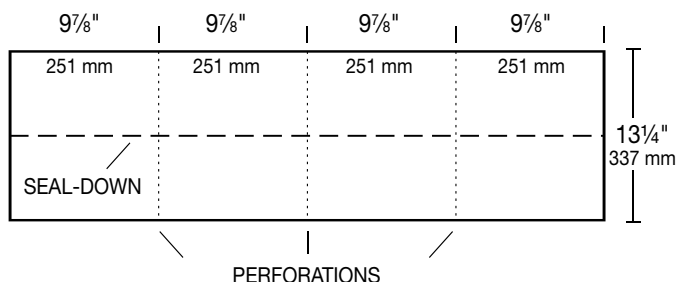
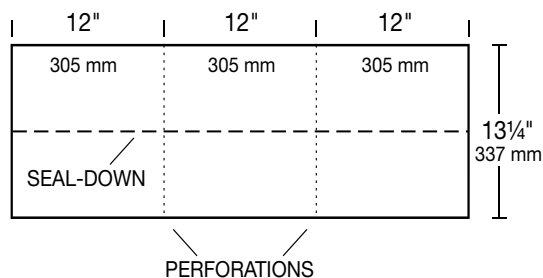

Figure 27 - 10" RidgeFlex™ Hip and Ridge Shingle
Figure 28 - 12" RidgeFlex™ Hip and Ridge Shingle
Prepare for application by separating each hip and ridge shingle at the perforations: The 10" RidgeFlex™ shingle produces four (4) individual hip and ridge strips (see Figure 27), and the 12" RidgeFlex™ shingle produces three (3) (see Figure 28). Note the presence of their seal-down strips.